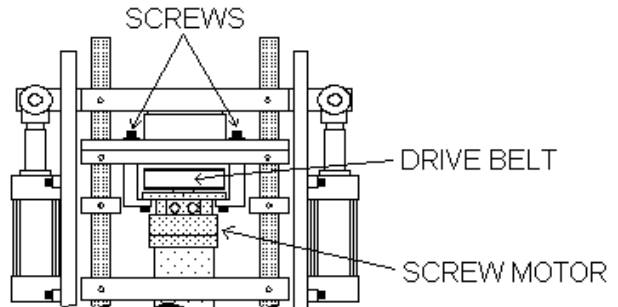

FIG. 4
- 3). Holding SCREW MOTOR, remove the 2 SCREWS holding the motor to the motor plate. Fig. 4
- 9). Remove 2 SCREWS and SPRING RETAINER from end of guide rods. Fig. 4